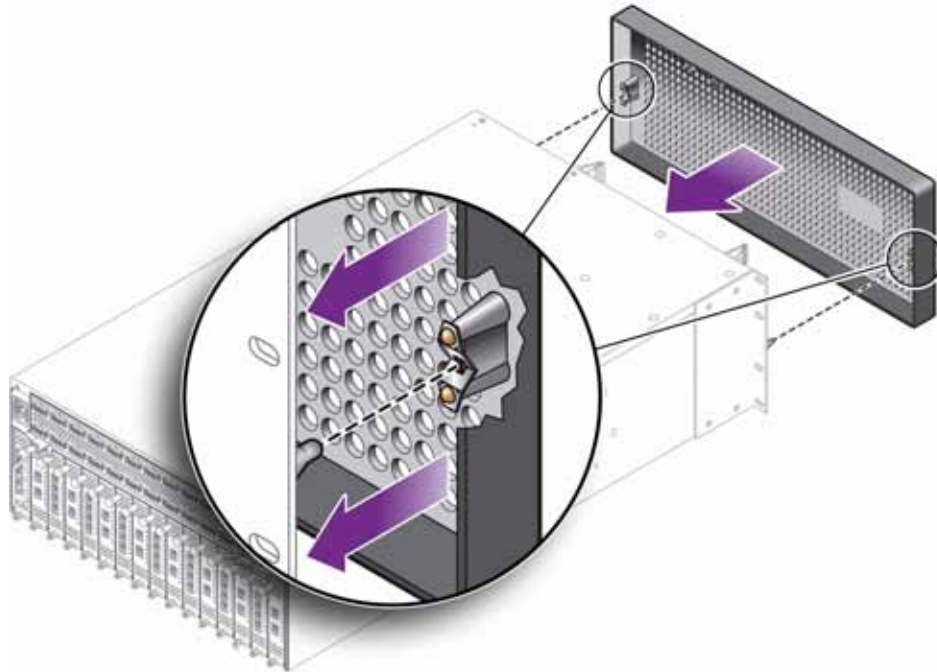

Figure 8 Bezel Mounting Pins and Slots
- Step 23** If you want to install the bezel to provide a protective faceplate for the Fabric Director, locate the slots on the inside of the bezel. These slots will receive mounting pins on the mounting brackets. See Figure 8.